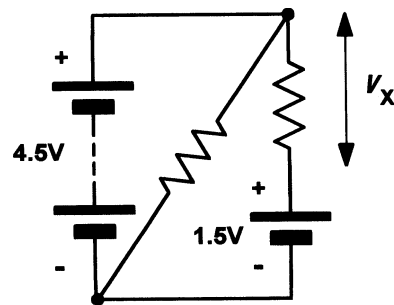

Figure A2.2
8. Figure A2.2 shows part of a circuit. Determine the value of  $V_X$ . [Page 46]